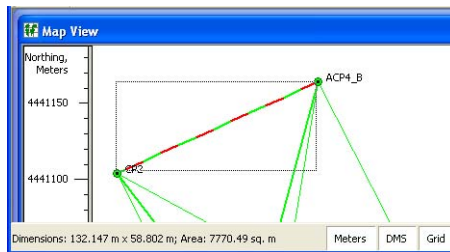

Figure 4-52. Show Area Size
- Show area size – enable to display an area of the rectangle in the Status Bar when the user drags the rectangle on the Map View (Figure 4-52 on page 4-55).